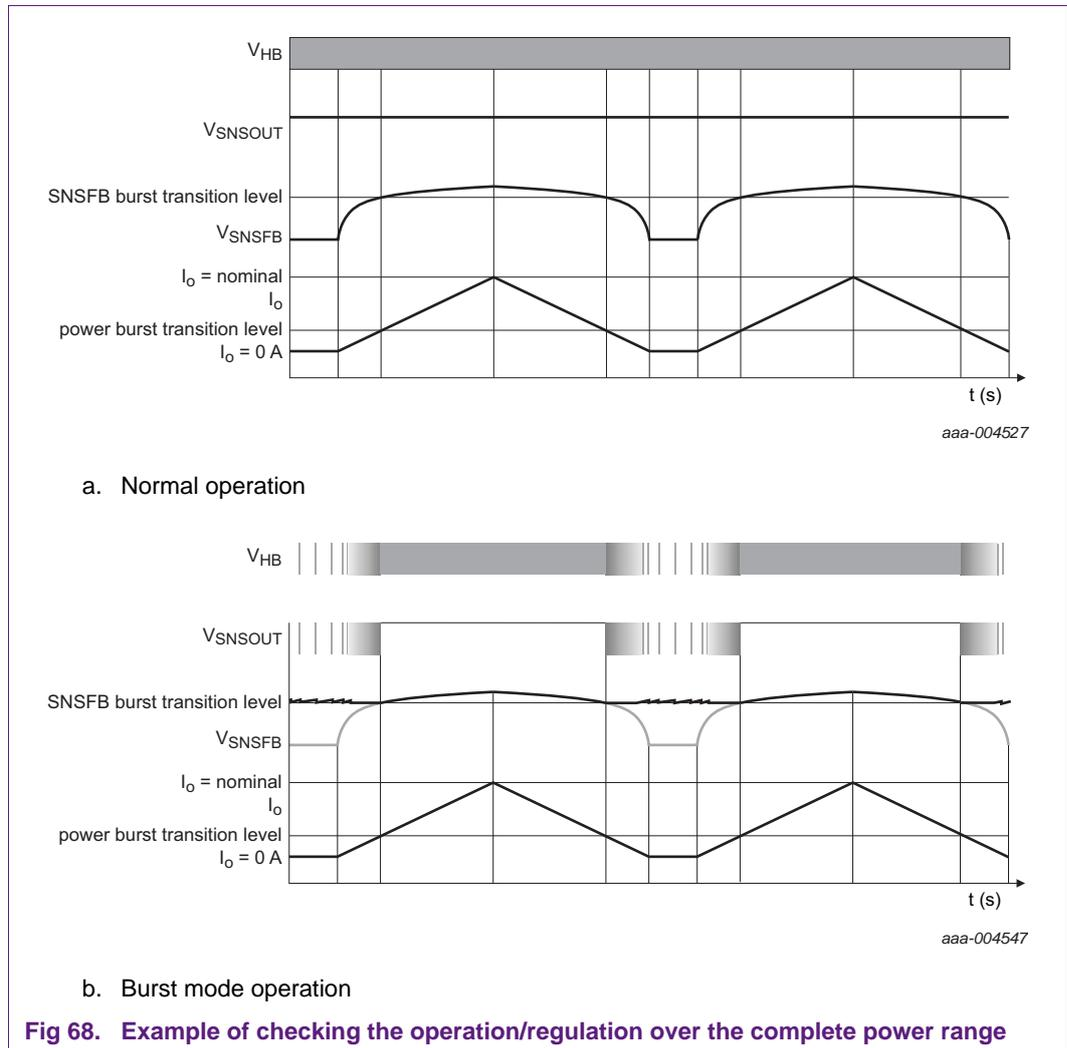

Fig 68. Example of checking the operation/regulation over the complete power range
- Applying a dynamic current load (see Section 11.4 and Figure 68)
A complete feedback behavior check of an application can be made by applying an output current/power sweep from 0 to nominal. Figure 68 shows an example of a sawtooth shaped current load to check the regulation behavior in an oscilloscope picture. This method can be used before and after the implementation of the burst mode.